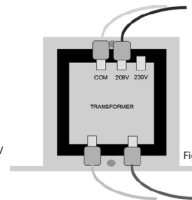

Figure 2: Transformer wiring for 208V
3. Remove the wire connector from the pin on the right (labelled 230V) and connect it to the centre pin (labelled 208V), as shown in Figure 2.